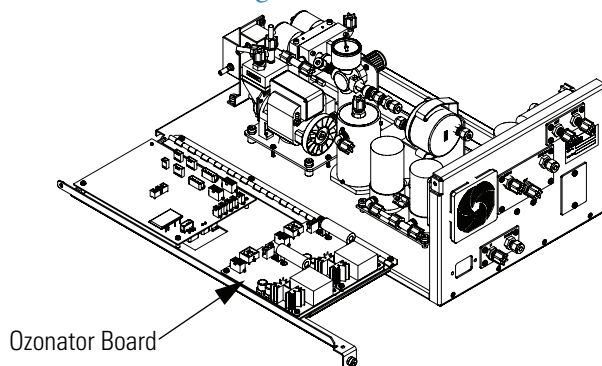

Figure 7-13. Ozonator Board Location
2. Unplug the ozonator lamp cable from the LAMP connector on ozonator board (Figure 7-13).
2. Unplug heater cable from the LAMP HEATER and LAMP connectors on the ozonator board (Figure 7-13).
Use the following procedure to replace the ozonator board (Figure 7-13).